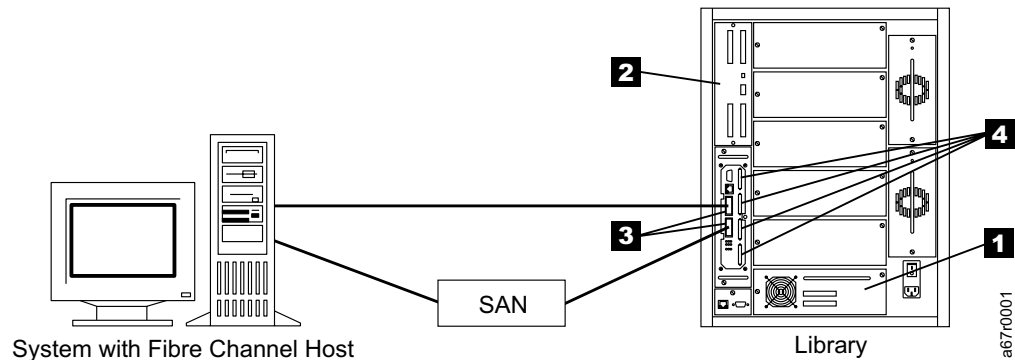

Figure 1. SAN Data Gateway Module in a tape library
The Gateway is the interface between the tape library and a storage area network (SAN) or Fibre Channel (FC) host. The Gateway provides Fibre Channel connectivity to the SCSI tape drives (**1** in Figure 1) and medium changer (**2** in Figure 1) in the tape library.
The Gateway has two Fibre Channel interfaces or ports and four SCSI interfaces or ports (see **3** and **4** in Figure 1). The Fibre Channel ports are equipped with 2 Gigabit, SC-style shortwave multimode Gigabit Interface Converter (GBIC) modules. The Fibre Channel ports are capable of communicating reliably at distances of up to 300m over 50µm multimode-optical fiber cables. The four SCSI ports are Ultra2, low voltage differential (LVD), with VHDCI-style connectors.